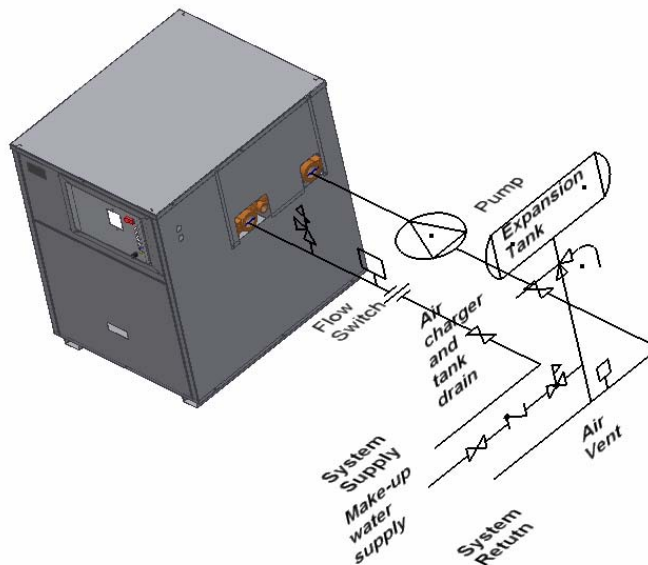

Figure 4
11. PIPING OF SYSTEM TO BOILER (FIG.4)